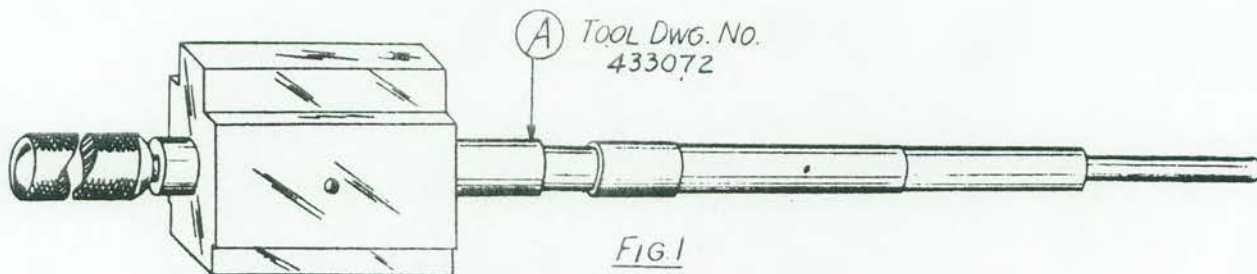

FIG. 1
- 34 PLACE CASING (B) AROUND TRUNNION BLOCK (C) AS SHOWN IN FIGURE 2. RIVETING FIXTURE (A), FIGURE 1, IS INSERTED IN CASING AND TRUNNION BLOCK AND PUSHED TIGHT. CASING CAN NOW BE RIVETED ON WITH THREE RIVETS.